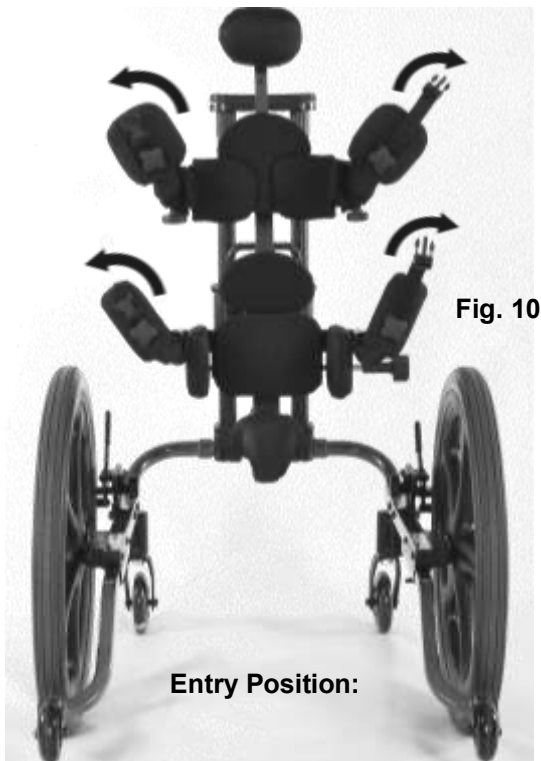

Fig. 10
- Flip up all front support pads upward and outward (fig. 10 and 10A) putting the *KidWalk II* into Entry Position.